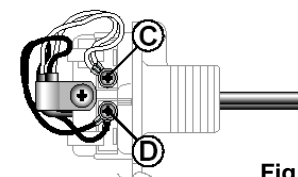

Fig.8
4. Loosen the screws on terminals (C) and (D). Connect the spade connectors of the controller cables to these terminals. Tighten the screws on terminals (C) and (D). Polarity is not important, either wire colour can be connected to either terminal (Fig.8).